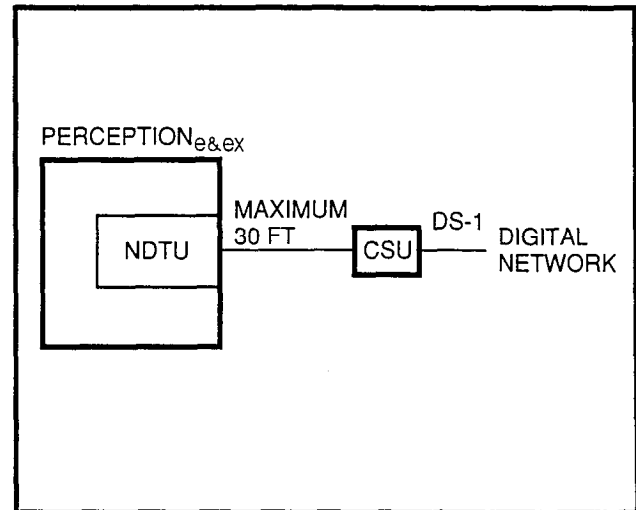

FIGURE 5—DS-1 CONNECTION TO DIGITAL NETWORK
3.31 The CSU/DSU (Channel Service Unit/Data Service Unit) provides an electrical protection, a keep-alive signal, and a repeater function. The CSU can still be network powered per FCC requirements. The DSU provides the physical conversion (V.35 or RS449/422 to DS1), "ONE" density, and D4 or ESF (Extended Superframe) framing (see Figure 5 and Attachment A).